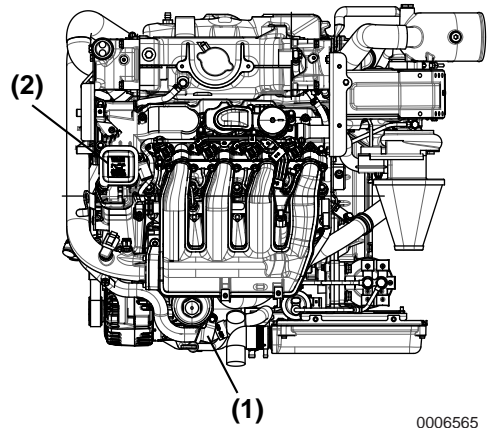

Figure 5
1. Remove the oil filler port cap (**Figure 5, (2)**) and pour engine oil into filler port. See *Engine Oil Specifications* on page 25.